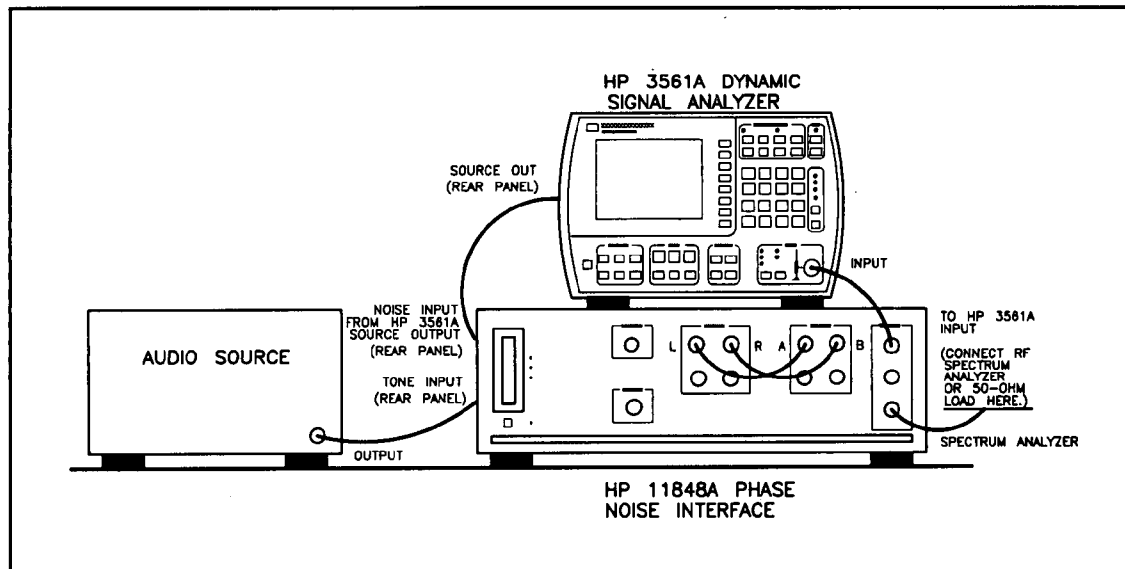

Figure 3. Spur Accuracy Test Setup
6. Connect the instruments as shown in the on-screen connection diagram and in Figure 3.